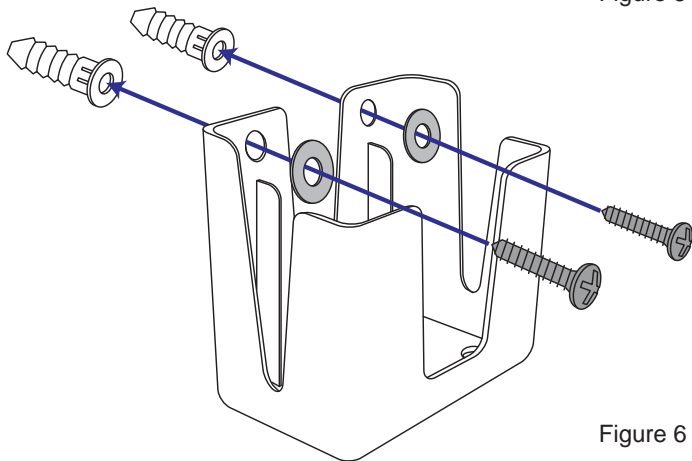

Figure 6
4. Line up the holes in the cradle with the screw anchors and mount the cradle to the wall using two screws and two washers (see Figure 6). Tighten the screws with a Phillips-head screwdriver.